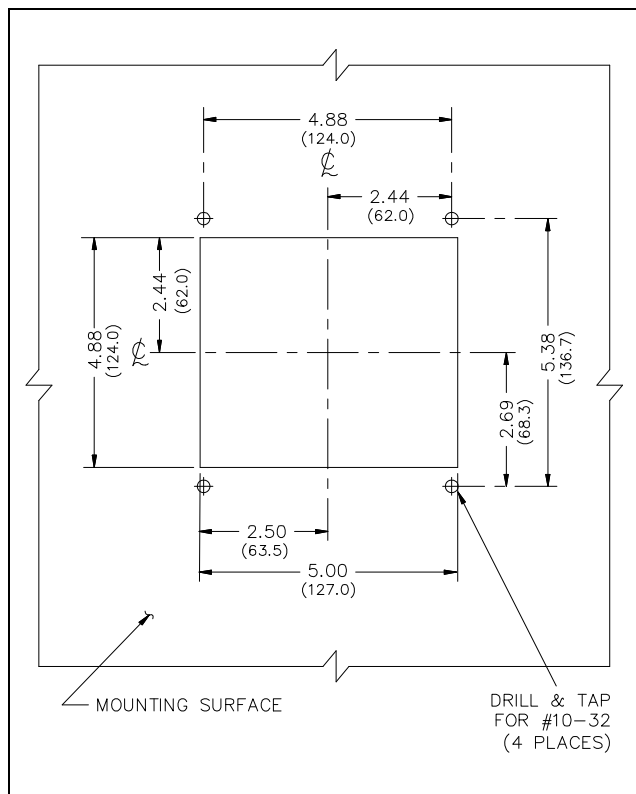
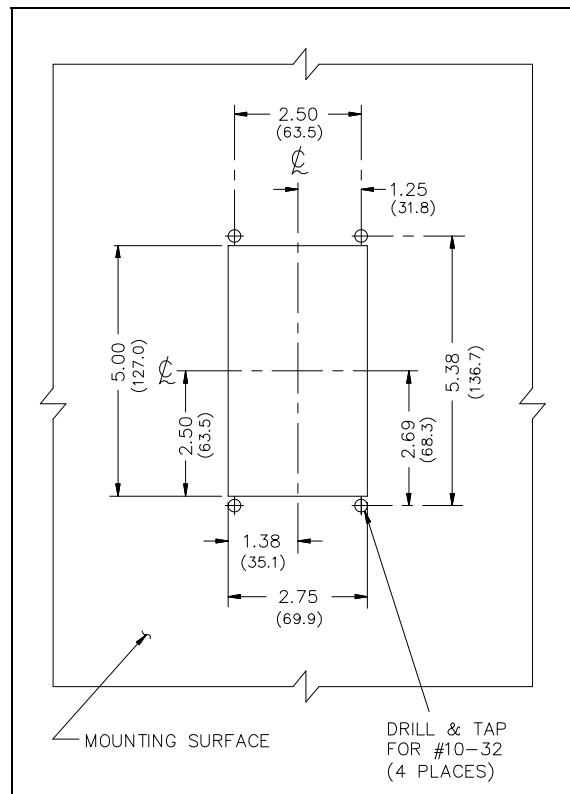

Figure 5. Model 7165-102 Cutout Details
Figure 6. Model 716-102 Cutout Details
1. Refer to Figure 5 and Figure 6 for the multi-party and single party subsets cutout details, respectively. Drill and tap four holes in the mounting surface for No. 10-32 machine screws (included) according to the measurements shown in to Figure 5 and Figure 6.